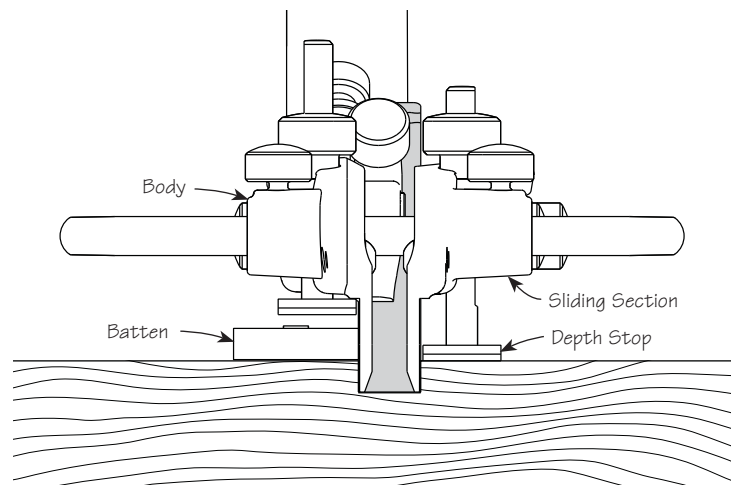

Figure 14: Cutting dadoes.
2. Set the depth stop on the sliding section (opposite the batten) to establish the resulting depth of the dado below the surface of the workpiece, as shown in **Figure 14**.